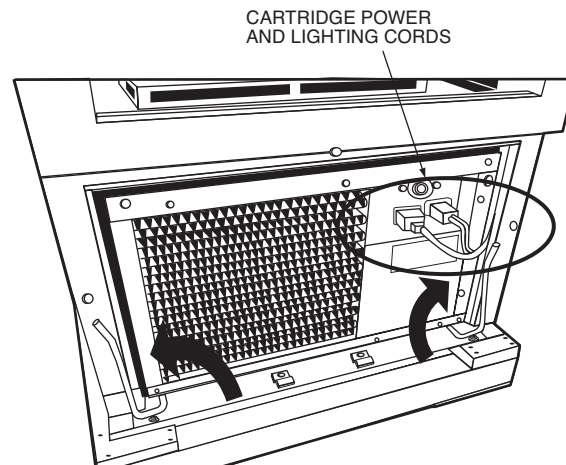
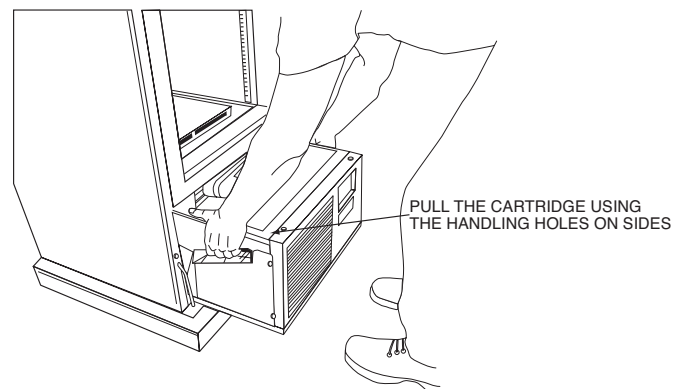

FIGURE 3 — ROTATE LIFTING WIRES IN DIRECTION SHOWN
FIGURE 4 — REMOVE CARTRIDGE
5. Take hold of the end of each lifting rod and rotate each approximately 90-degrees upward so that they are nominally vertical (Figure 3.) The cartridge should be disengaged from the cabinet and resting on the base of the cabinet assembly. Handling holes are located on either side of the cartridge near the top and along the side of the cartridge (Figure 4). Grasp the cartridge by these holes and slide the unit forward from the cabinet until the cartridge is free. Use caution to ensure that power and electrical cords do not get pinched between the cartridge and cabinet while removing cartridge.
5. Take hold of the end of each lifting rod and rotate each approximately 90-degrees upward so that they are nominally vertical (Figure 3). The cartridge should be disengaged from the cabinet and resting on the base of the cabinet assembly. Handling holes are located on either side of the cartridge near the top and along the side of the cartridge (Figure 4). Grasp the cartridge by these holes and slide the unit forward from the cabinet until it is free. Use caution to ensure that power and electrical cords do not get pinched between the cartridge and cabinet while removing cartridge.